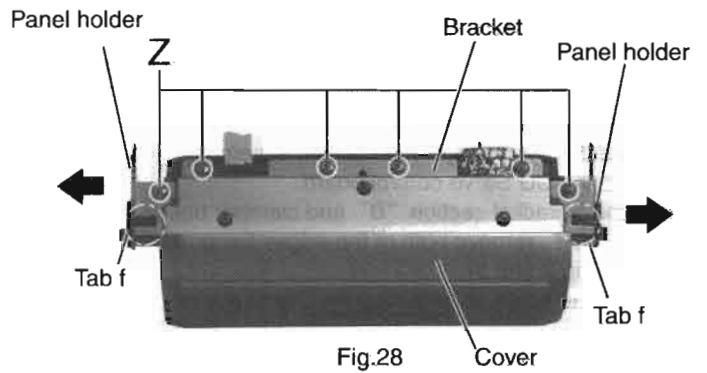

Fig.28
■ **Removing the operation switch Board** (See Fig.28 and 29)